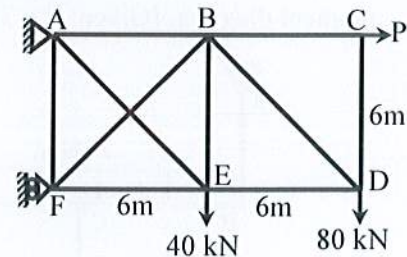

Fig.4
4. Analyze the Truss in **Fig.4** using Force Method and find all member forces, where P is 20kN if the roll is even or P is 30kN, if the Roll is odd. Consider the Force in BE as redundant. [E and A are constant] [14]